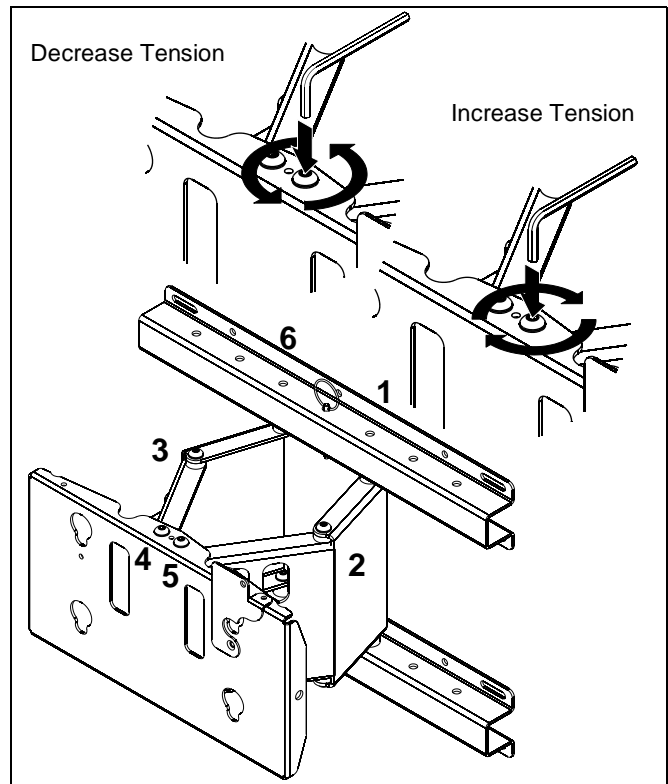

Figure 9: Tension Adjustment Points
There are a total of 12 tension adjustment points on the mount (See Figure 9). Six on mount top, and six on mount bottom. Points 1 through 6 control mount extension and retraction tension. Points 1 and 6 control mount right left swing tension, and points 3 and 4 control display left right rotation tension.
NOTE: It is important that corresponding points are adjusted equally. **Example:** 1 and 6, 2 and 5, 3 and 4, and their corresponding adjustment points on mount bottom (See Figure 9).
2. Using the hex wrench provided, tighten or loosen adjustment screws until desired tension is achieved (See Figure 9).